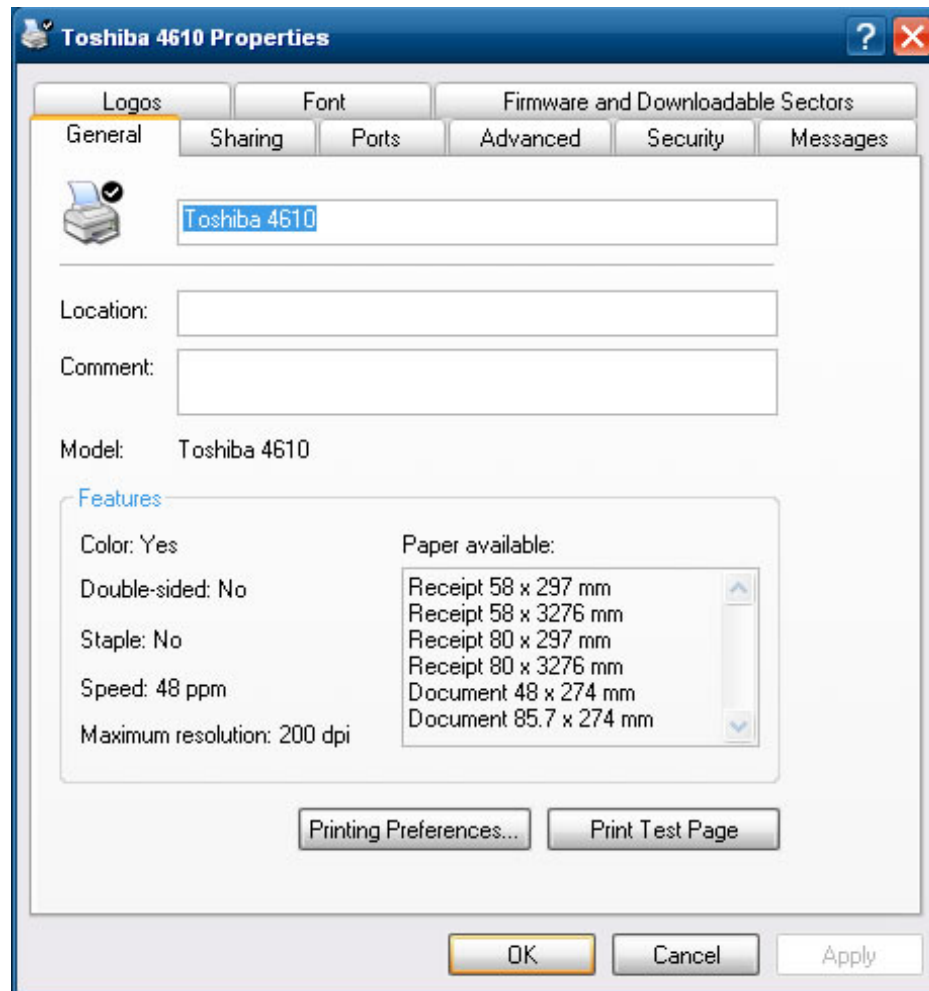

Figure 38. Toshiba 4610 Properties
2. Right-click the **Toshiba 4610** icon and select **Properties**. The Toshiba 4610 Properties window opens with the General page selected (see Figure 38).
2. Right-click the Toshiba 4610 icon and select **Properties**. The Toshiba 4610 Properties window opens with the General page selected (see Figure 38).